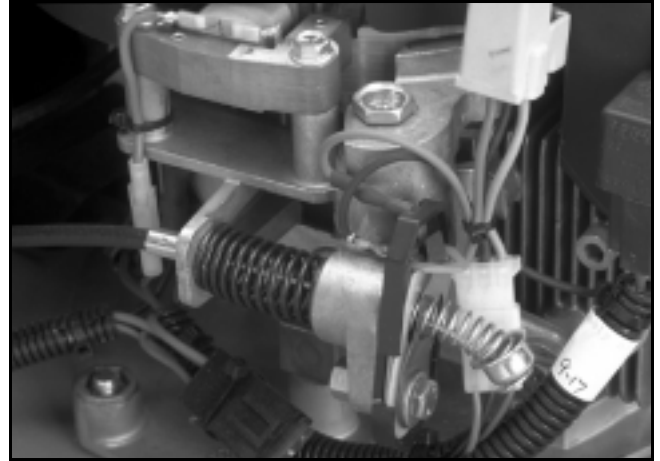

Figure 91
6. Operate the blade control bail to verify that the brake mechanism stops within three (3) seconds. There is no adjustment needed after this assembly process is completed. (See Figure 91).